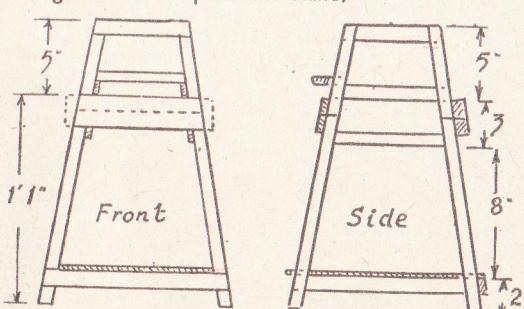

Fig. 1—Front and side view
round, and hold the rear middle bars together with a hook fastener, going under a screw head, as in detail sketch (B). A footboard of  $\frac{1}{2}$  in. by 2 in. wood can be nailed across the legs at the front, at any convenient distance down from the top, somewhere about where shown in Fig. 1. A good glasspapering all over will be necessary now to remove roughness.